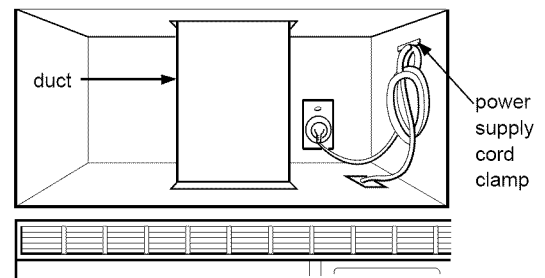

Figure 34
6. Roof venting installation: Install ductwork through the vent opening in the upper cabinet. Complete the venting system through the roof according to the method needed. See Figure 34. See PREPARE THE VENTING SYSTEM, STEP 2. Use caulking gun to seal the exterior roof opening around the exhaust cap. See Figure 6.
7. Use the power supply cord clamp to bundle the power supply cord. Install the power supply cord clamp, using a screw as shown in Figure 34, to inside of the cabinet.